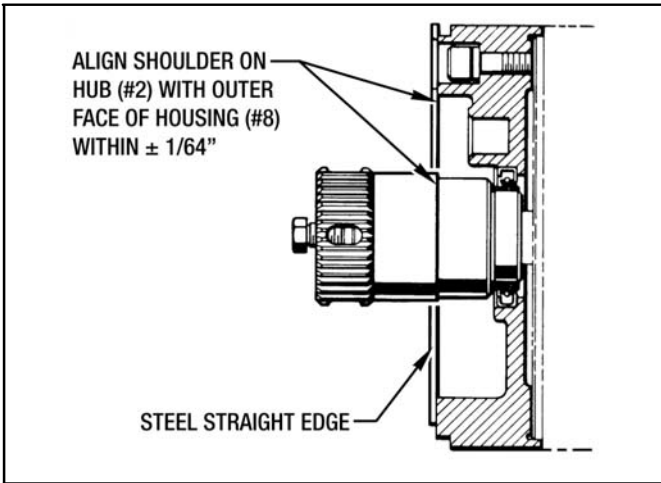

Figure 3.1 - Hub (#2) Alignment
1. Tape a steel straightedge to the outer face of the housing as shown in *Figure 3.1* on the next page.